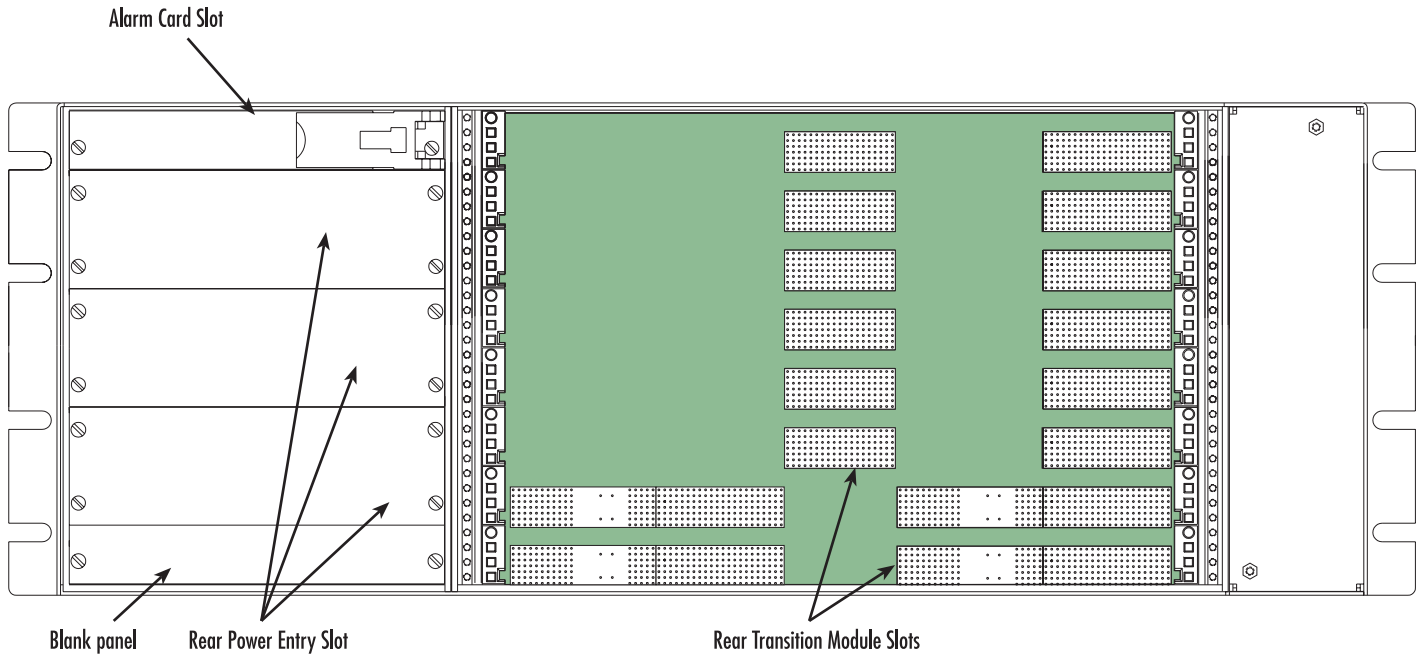

Figure 4. Rear view of chassis
- A set of 3U slots allocated for the following uses (see figure 4 on page 21):